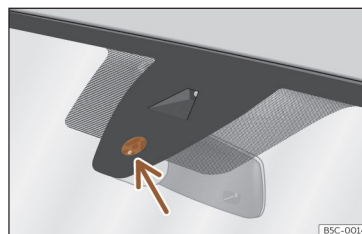

Fig. 98 Rain sensor sensitive surface
Possible causes of faults and mistaken readings on the sensitive surface »» Fig. 98 of the rain sensor include:
- Regularly clean the sensitive surface of the rain sensor »» Fig. 98 (arrow) and check for possible damage to the wiper blades.